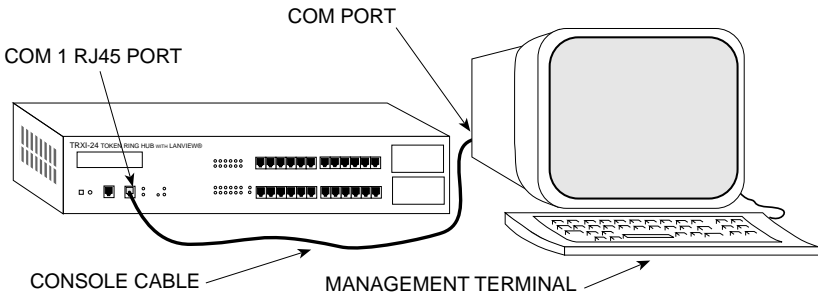

Figure 5-1. Management Terminal Connection
1. Attach the male RJ45 connector to the COM 1 port of the TRXI as shown in Figure 5-1.